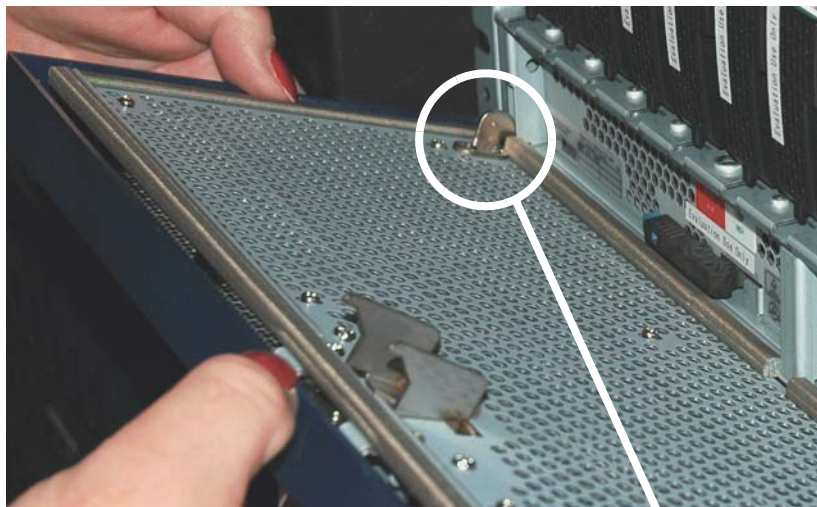

Figure 5-42: Installing a Front Bezel
3. Engage the two hooks of the bottom of the front bezel into the slots on the array chassis. See Figure 5-42.